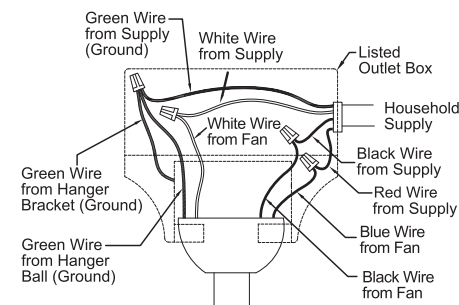

Figure 14B
1. Connect the green grounding lead from the downrod and the green grounding lead from the hanger bracket to the supply grounding conductor (this may be a bare wire or wire with green colored insulation). Securely connect wires with wire connector. Securely connect the white fan motor wire to the white supply (neutral) wire using wire connector. Securely connect the black fan motor wire to the black supply wire using wire connector. Securely connect the blue fan motor wire to the red supply wire using wire connector. (Fig. 14B)